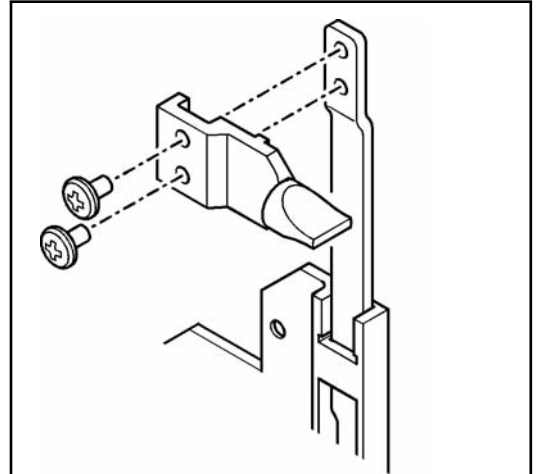

Figure 26. Slider control knob
1. Attach the slider knob assembly to the slider using two M4 x 10mm screws supplied (See figure 26).